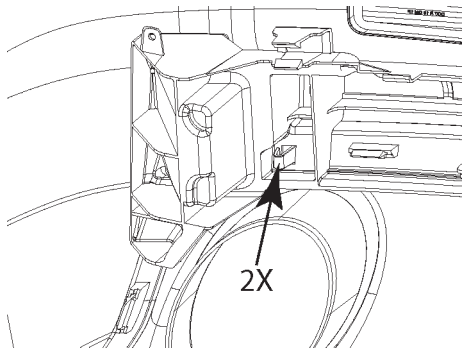

FIGURE 6A
9. Unsnap impact absorber from Fascia (4 snaps). Refer to figure 6a & 6b.